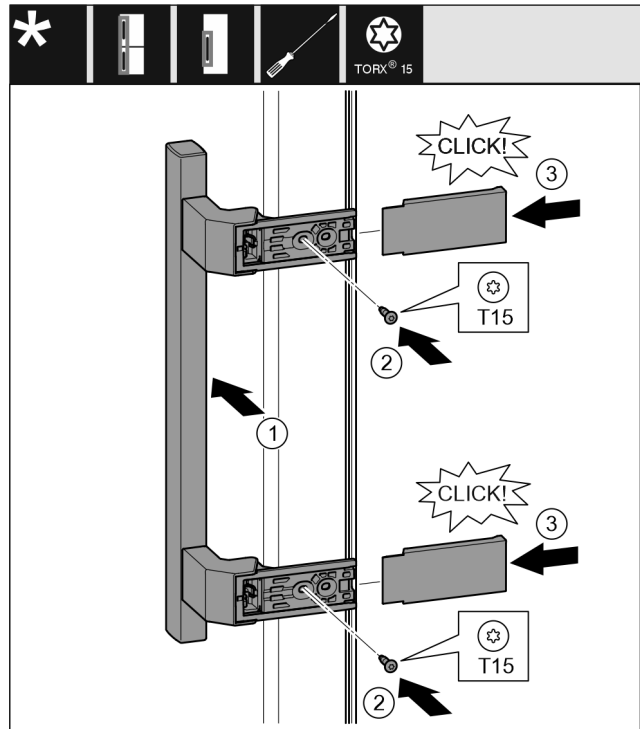

Fig. 15
- Position the handle on the other side. Fig. 15 (1)
- Tighten the screw with a T15 screwdriver. Fig. 15 (2)
- Position the covers on the side and push them on. Fig. 15 (3)